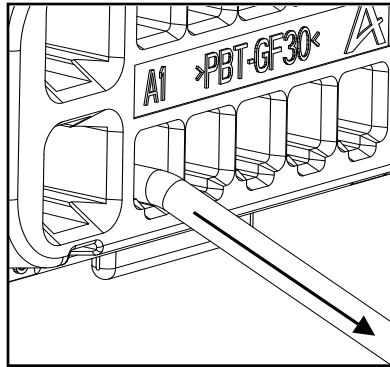

FIGURE 8
- While maintaining pressure on the service tool, the selected terminal may be removed from the rear of the connector by pulling it out by the wire. To help maintain seal integrity, if possible, pull the wire at a small angle away from the connector center as shown in Figure 8 (not required for 2.8mm terminals). *NOTE: Terminal removal should require only a gentle pulling force applied to the wire. If the*